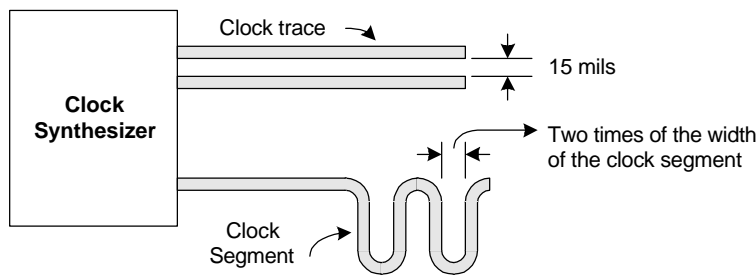

Figure 2-23. Clock Trace Spacing Guidelines
- The minimum space between one clock trace and adjacent clock traces is 15 mils. The minimum space from one segment of a clock trace to other segments of the same clock trace is two times of the clock width. That is, more space is needed from one clock trace to others or its own trace to avoid signal coupling (see Figure 2-23).